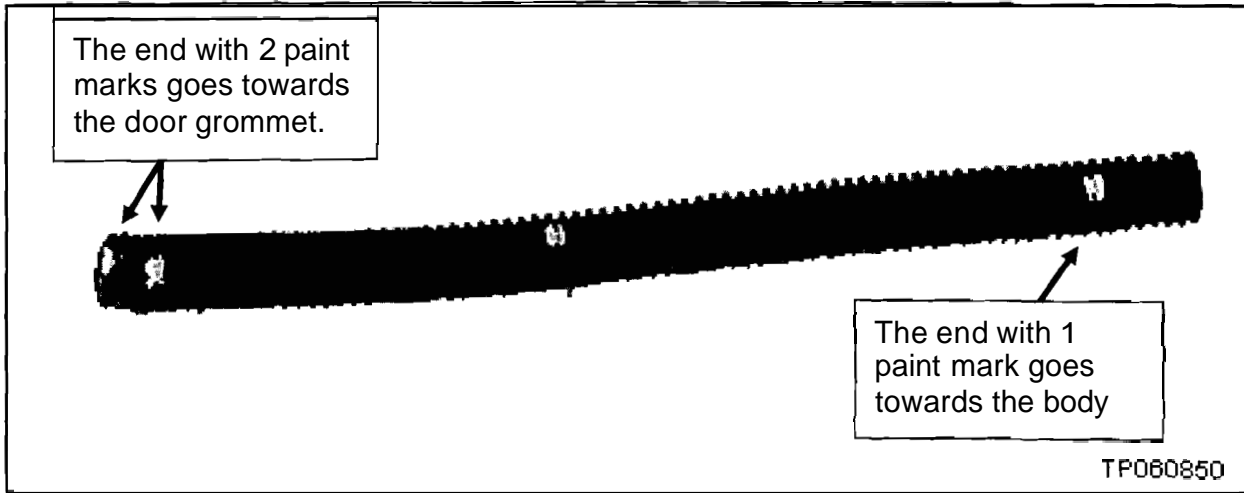

Figure B5
- Install the corrugated tube in the direction shown in Figure B5.